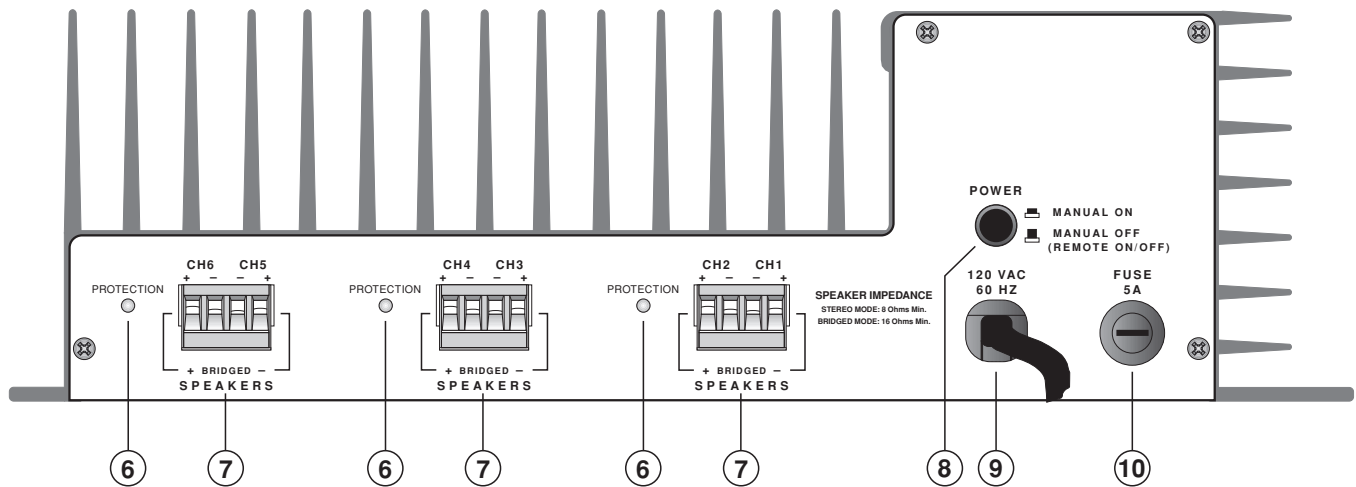

Fig. 3 PA640 Output & AC Panel – Features and Functions
4. PA640 does not turn OFF when REMOTE input voltage goes to 0 Volts.	<ul style="list-style-type: none"> • Be sure that the POWER switch (item 8, fig. 3) is set to the MANUAL OFF (REMOTE ON/OFF) position.
5. PA640 becomes very warm, shuts OFF, but does not come back ON automatically.	<ul style="list-style-type: none"> • Set POWER switch (item 8, Fig. 3) to MANUAL OFF (OUT) position for 15 seconds, then back ON. If REMOTE ON/OFF jack is used, unplug for 15 seconds, then replug.